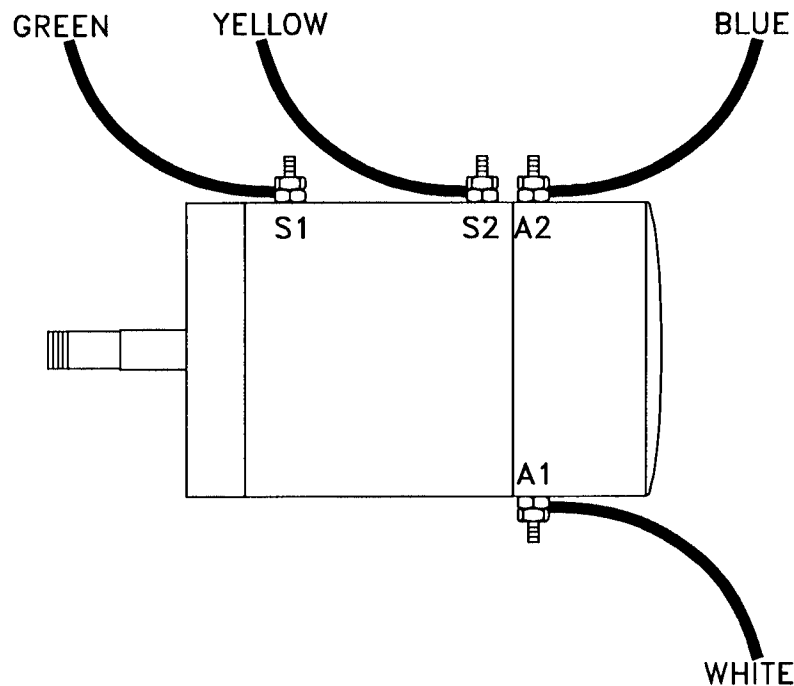

Figure 15 - Motor wiring
- 5** Connect the positive (+) V.O.M. lead to the motor A1 terminal (see Figure 15). The V.O.M. should read positive (+) battery voltage.